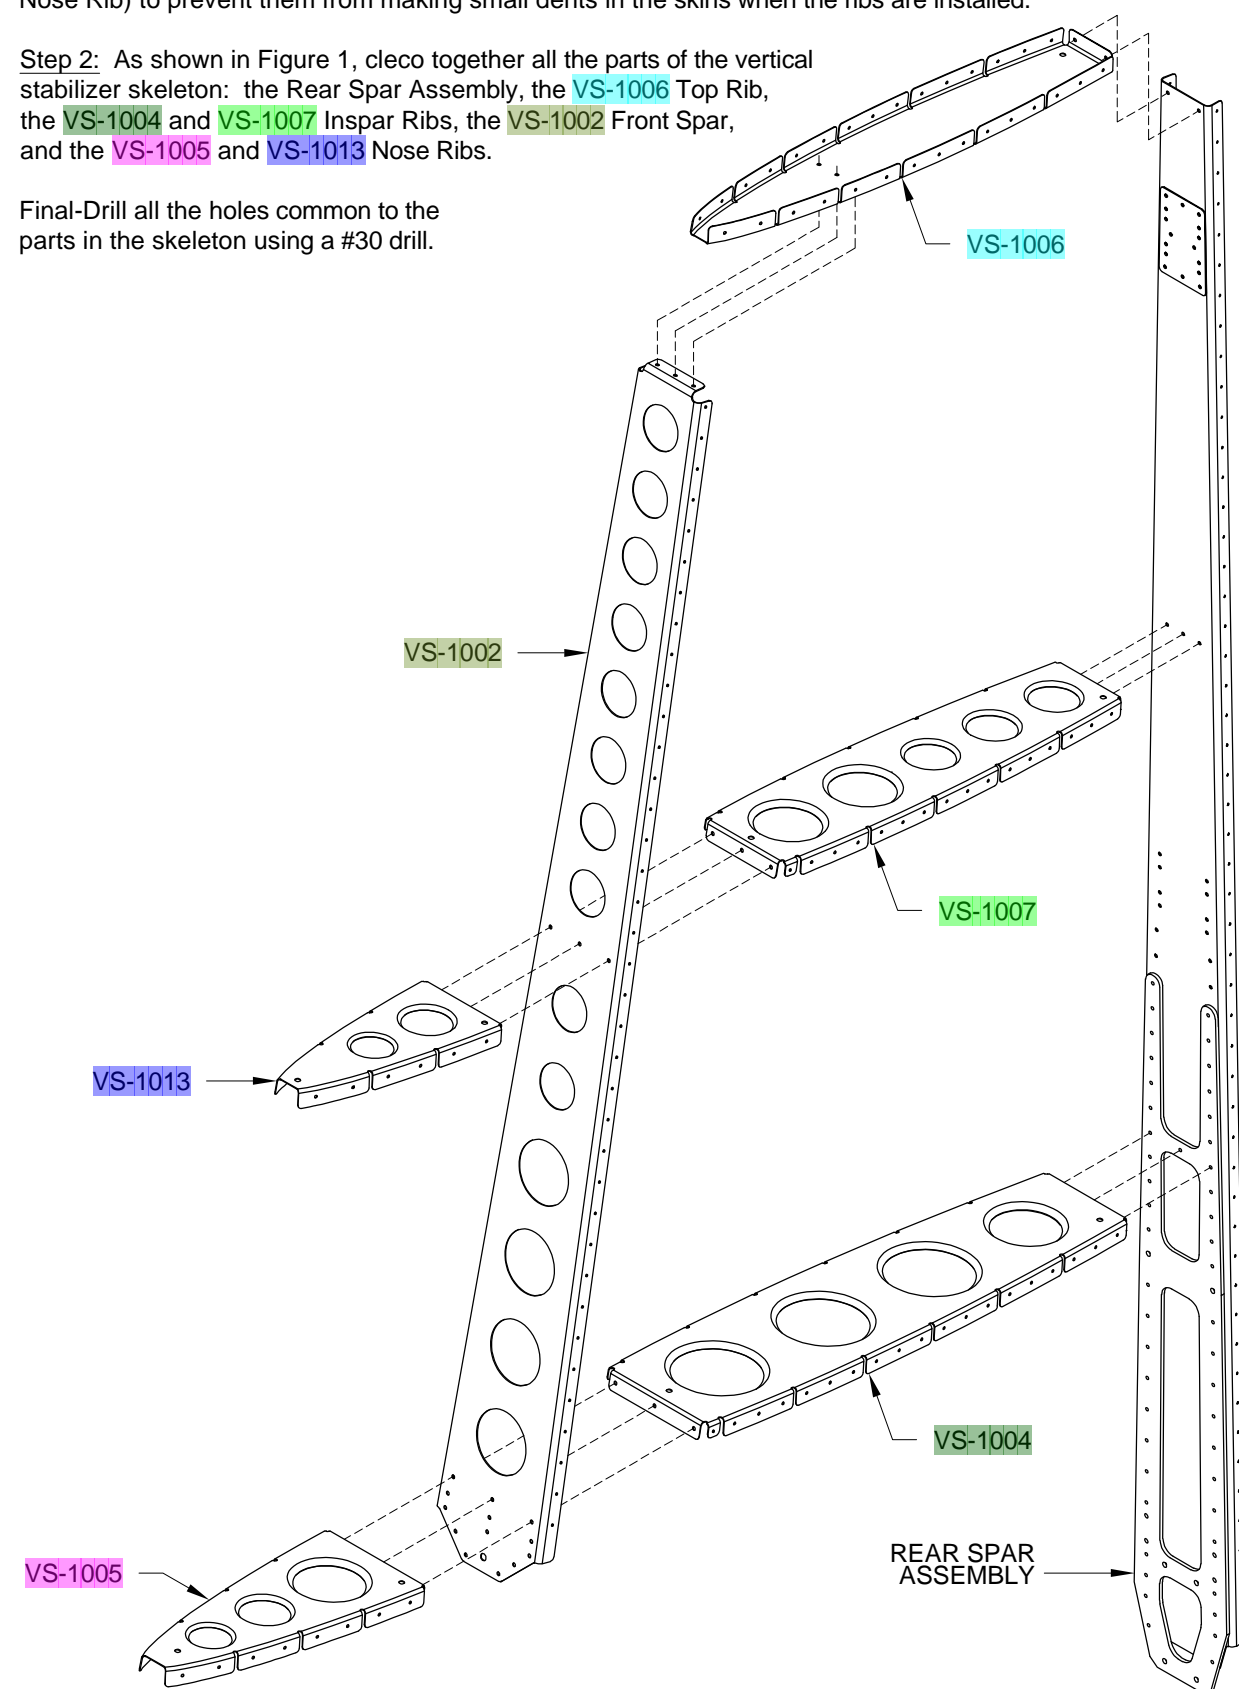

FIGURE 1: SKELETON ASSEMBLY
Step 2: As shown in Figure 1, cleco together all the parts of the vertical stabilizer skeleton: the Rear Spar Assembly, the VS-1006 Top Rib, the VS-1004 and VS-1007 Inspar Ribs, the VS-1002 Front Spar, and the VS-1005 and VS-1013 Nose Ribs.
Step 5: Empennage fairing screw holes are indicated on Page 6-6, Figure 1, along the bottom edge of the depicted skin. Mark the corresponding holes in the VS-1001 Vertical Stab Skin, and in the flanges of the VS-1005 Bottom Nose Rib, the VS-1004 Bottom Inspar Rib, and the VS-1003 Rear Spar.
Step 6: Dimple all the holes of the VS-1001 Vertical Stab Skin except for the following: the eight vertical stab tip fairing attachment holes at the top of the skin (see Page 6-6, Figure 1) and the holes just marked in Step 5. Depending on the vintage of your "C" frame tool, you may not be able to reach all of the holes to dimple. The unreachable holes can be dimpled with a pop rivet dimple die set available from tool suppliers.